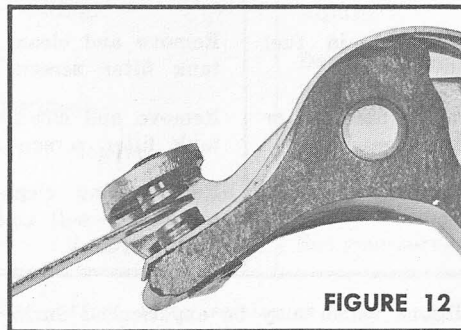

FIGURE 12
6. **MAGNETO:** Do not inspect or adjust unless absolutely necessary. The quantity of spark from the spark plug will indicate magneto condition. Breaker point gap should be .020 inch. In event of removal all magneto parts must be replaced in correct setting and location. It is recommended that if magneto service work is required, the chain saw be taken to your local servicing dealer (figure 12).